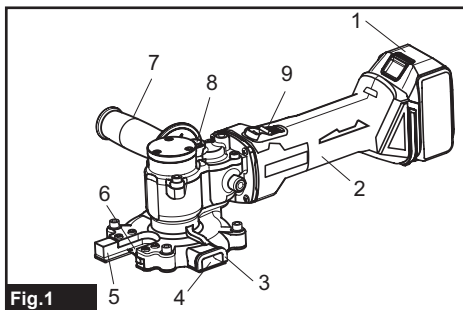

Fig.1
▶ Fig.1: 1. Battery 2. Motor 3. Dust Bag Holder 4. Outlet 5. Guide 6. Tipped Saw 7. Handle 8. Lock Button 9. Switch